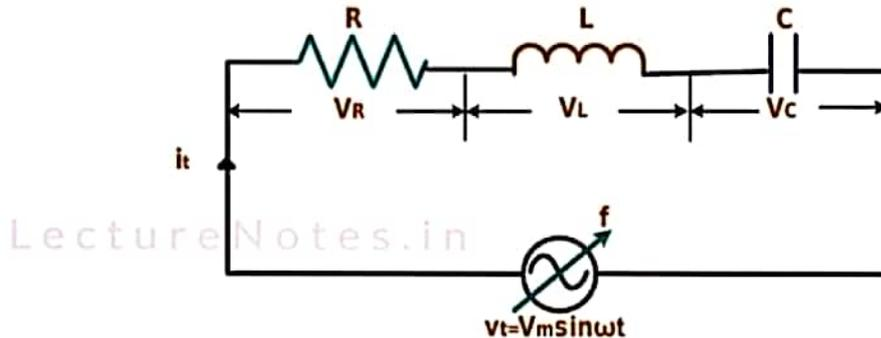

Figure 2.38 Circuit Diagram of Series Resonance RLC Circuit
- Such a circuit shown in the Fig. 2.38 is connected to an A.C. source of constant supply voltage V but having variable frequency.